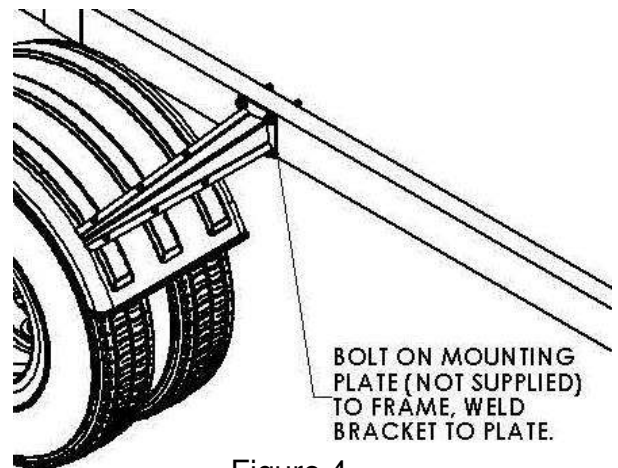

Figure 4
- B. It is possible to bolt a plate (not supplied) to the frame and weld the brackets to that plate (Figure 4). Another option is to weld the bracket directly to the frame.